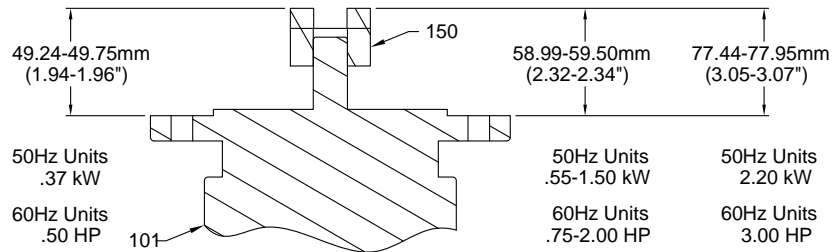

Figure 11 – Motor Coupling Placement
- d. Install the upper retaining ring (44).
- f. Press the quill shaft (35) into the bearing until the shoulder of the shaft registers against the inner race of the bearing.
- g. Install the upper retaining ring (56) in the shaft groove.
- h. Turn the housing large end down, and press the lower oil seal (49) until it is flush with the end of the housing.
- a. Position the motor coupling hub (150) as shown in Figure 11.